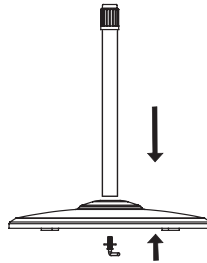

Fig.2
- 2 Insert the column in the chassis and tighten the plastic nut. (If you can't tighten, check the nuts on the bottom of the chassis) (Fig.2)